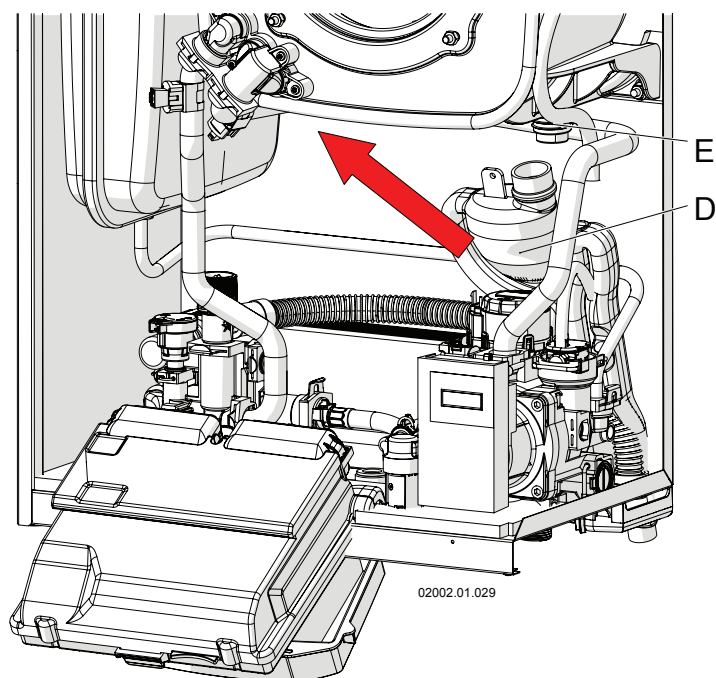

Figure 8-7 – Removing the condensate collection siphon
- 7.- Extract the siphon by moving it outwards (see figure 8-7), taking care to disconnect the collection pipes for the water coming from the upper part of the appliance and from the air vent valve.